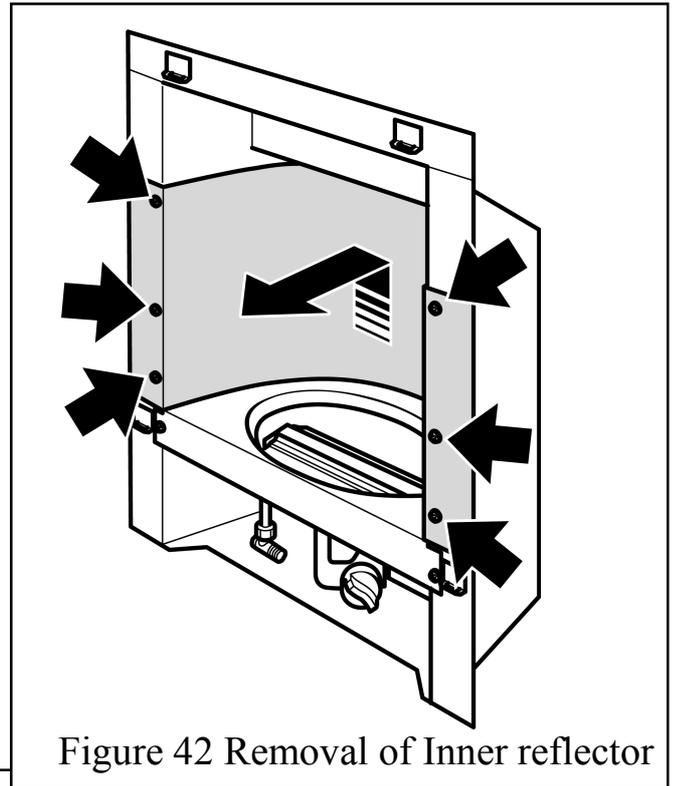

Figure 42 Removal of Inner reflector
4. Remove the six screws from the side of the inner reflector (See figure 42).
5. Carefully lift the inner reflector and pull forward to remove. **Be careful not to scratch the top surface of the burner cover** (See figure 42). Place the inner reflector in a safe place away from the work area.